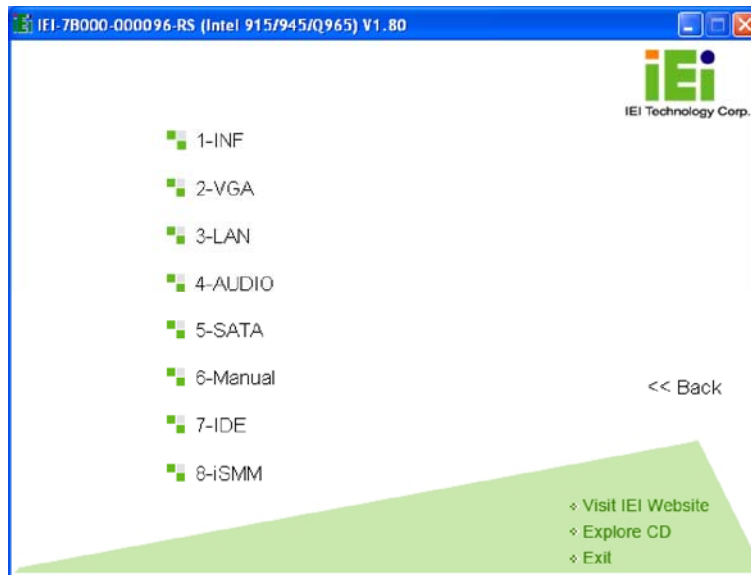

Figure 7-2: Available Drivers
Step 4: A new screen with a list of available drivers appears (**Figure 7-2**).
Step 5: Select the driver to install from the list in **Figure 7-2**. Detailed driver installation instructions follow below.
Step 6: Select **INF** from the list in **Figure 7-2**.
Step 1: Select the VGA driver from the list in **Figure 7-2**.
Step 1: Select **AUDIO** from the list in **Figure 7-2**.